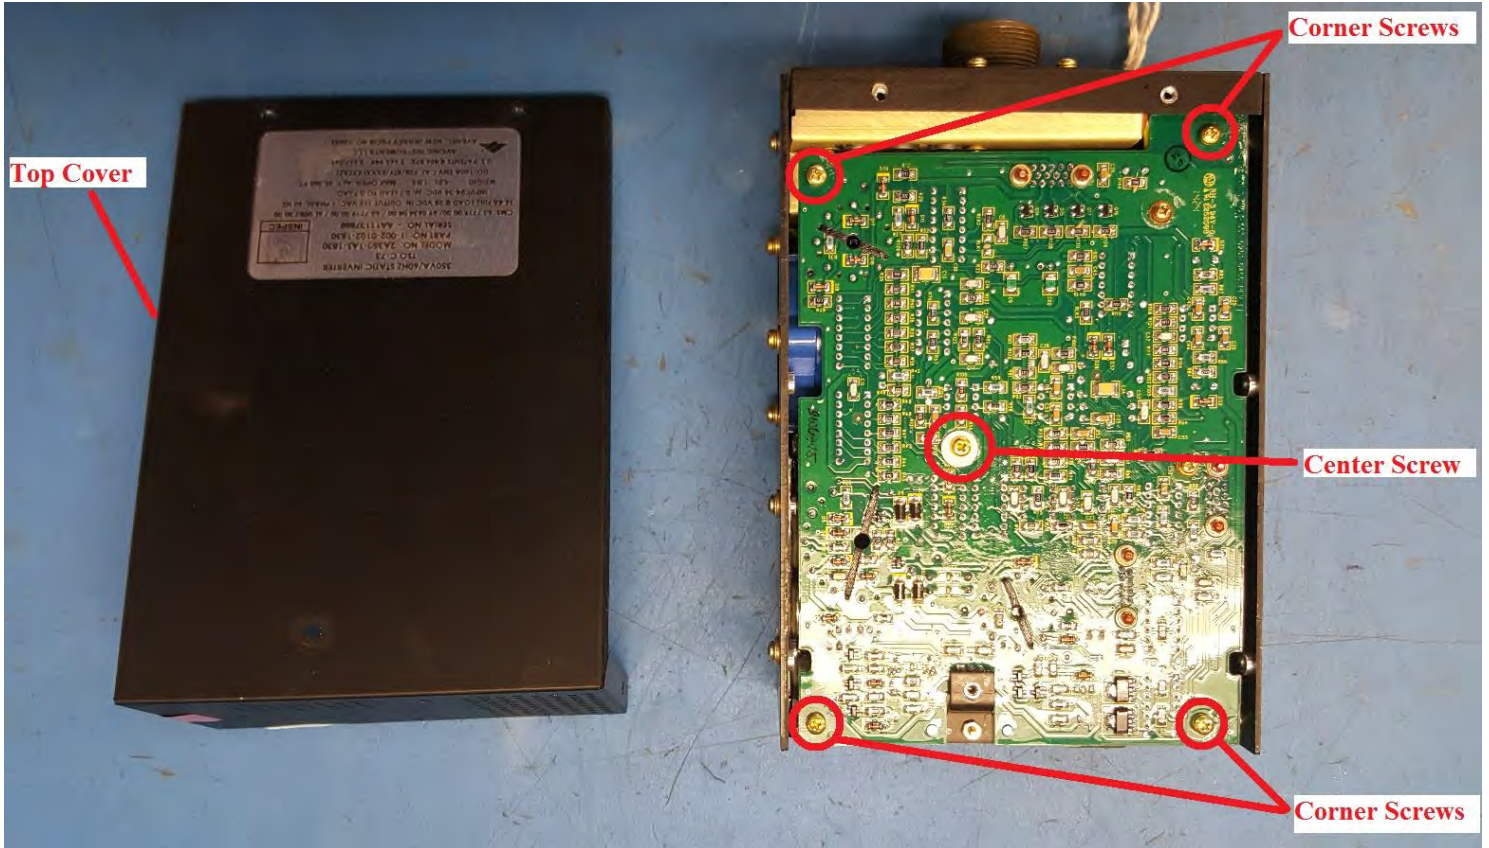

Figure 2 – Top Cover removed (PCB Screw Locations)
3. Remove four (4) corner screws and one (1) middle screw from the PCB. All screws in this step use washers (Figure 2).
4. Fasten the PCB to the unit using four (4) corner screws, and one (1) center screw. All screws in this step use washers (Figure 2).
6. Secure the top cover using three (3) top screws, two (2) rear screws and eight (8) side screws. All screws in this step use washers.